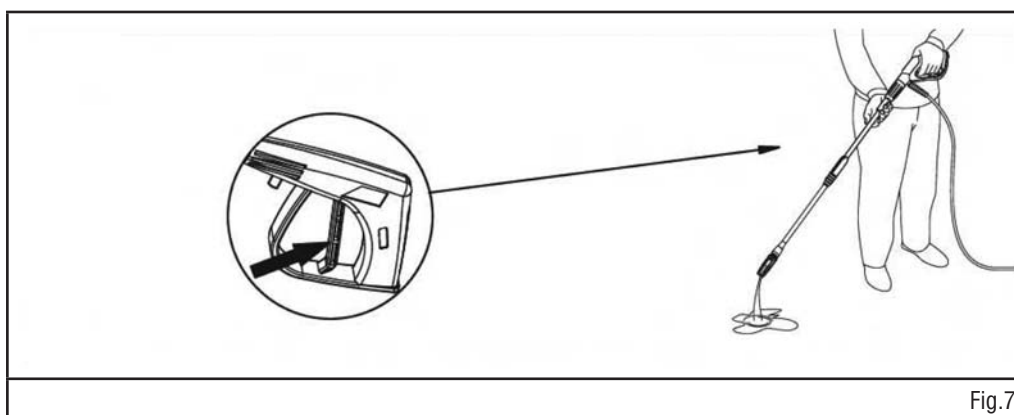

Fig.7
2. Before turning the unit ON, squeeze the trigger to bleed any trapped air out of the pump and hose. (Fig. 7)